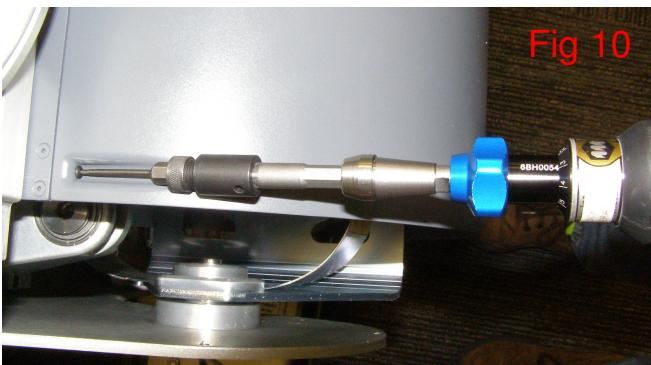

Fig 10
3. Using Loctite 248, combine the 1.5mm bit with the hex 1/4 adapter and the 1/4 male to 1/4 hex adapter, install the screw and torque to 0.34Nm using the Small torque driver. (Fig 10)